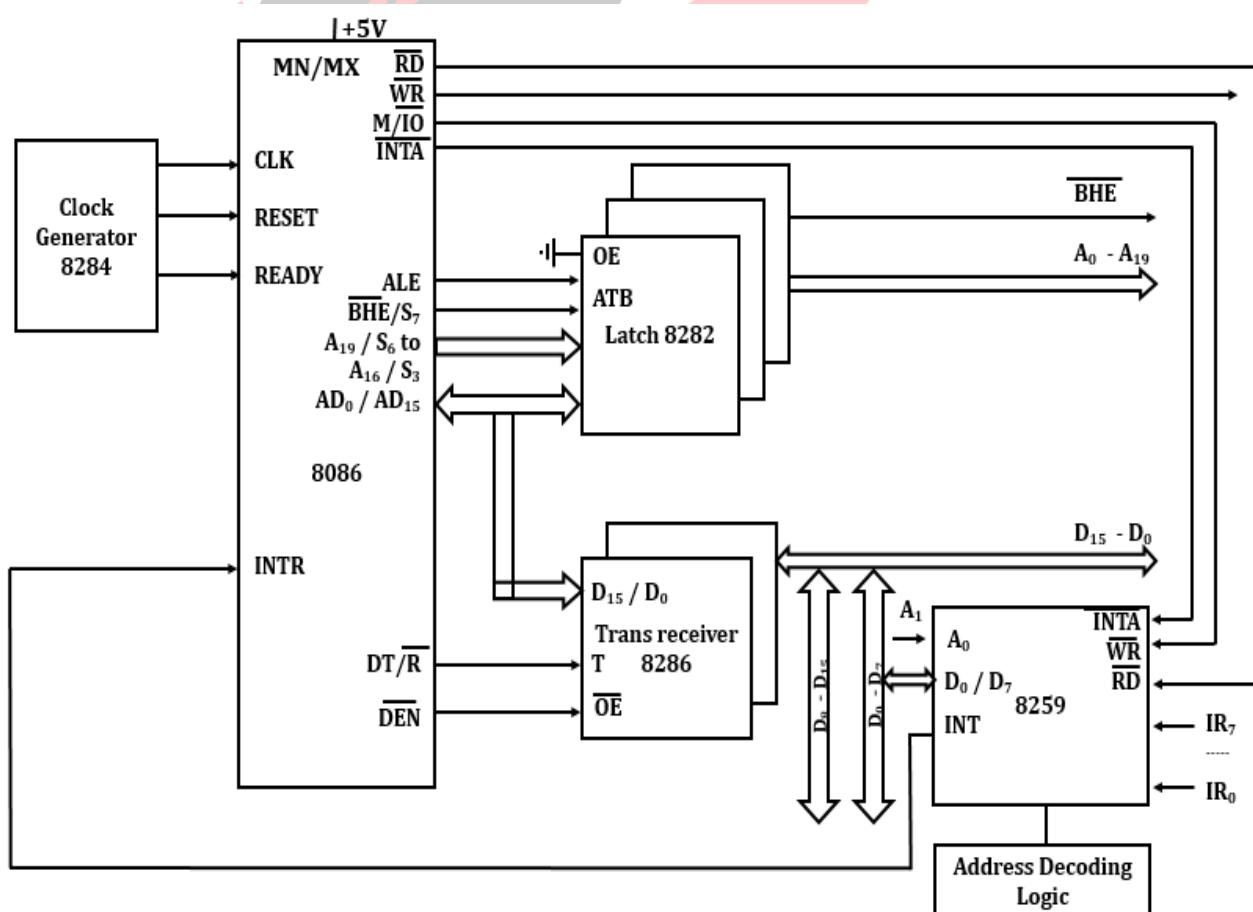

Figure 3.2: 8086 in Minimum Mode, 8259 in Single Mode.
12. Figure 3.2 shows interfacing of 8259 with 8086 in minimum mode (8259 in single mode).